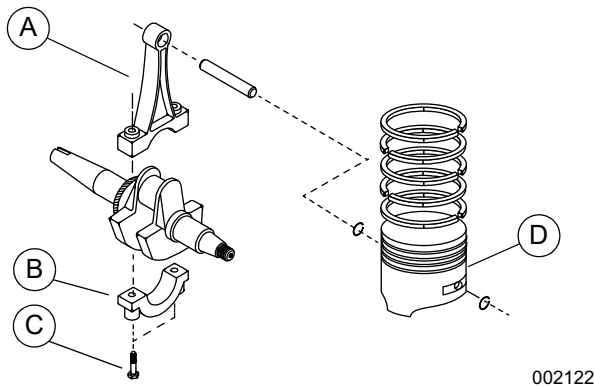

Figure 12-1. Pistons, Rings, and Connecting Rod
See Figure 12-1. Clean all carbon from the cylinder bore (to prevent ring breakage) before attempting to remove the piston (D) and connecting rod (A). Proceed as follows to remove piston and rod: